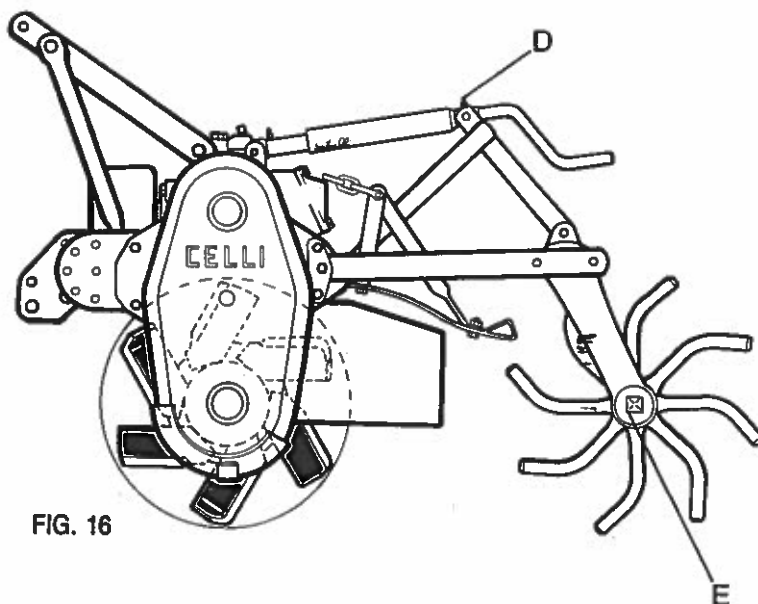

FIG. 16
- SMONTARE I COPERCHI DEI SUPPORTI RULLO (FIG. 16 - POS. E) INGRASSARE I CUSCINETTI DEI SUPPORTI E RIAVVITARE ENTRAMBI I COPERCHI
- INGRASSARE LA VITE DI REGOLAZIONE RULLO (FIG. 16 - POS. D)
- DISASSEMBLE THE COVERS OF THE ROLLER STANDS (FIG. 16 POS. E)
- GREASE THE ROLLER ADJUSTING SCREW. (FIG. 16 POS. D)
- ENLEVER LES COUVERCLES DES SUPPORTS DU ROULEAU (FIG. 16 - POS. E), GRAISSER LES PALIERS DES SUPPORTS ET REMONTER LES DEUX COUVERCLES. CHAQUE SEMAINE DE TRAVAIL
- GRAISSER LA VIS DE REGLAGE DU ROULEAU (FIG. 16 POS. D)
- DIE DECKEL DER WALZENHALTERUNGEN ABMONTIEREN (FIG.16 POS.E) DIE LAGER DER HALTERUNGEN SCHMIEREN UND DIE DECKEL NEU ANBAUEN.
- DIE VERSTELLUNGSSCHRAUBE DER WALZE SCHMIEREN (FIG.16 POS. D)